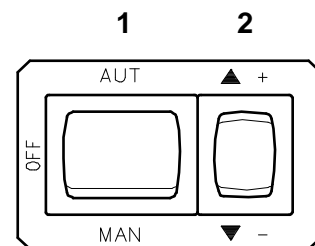
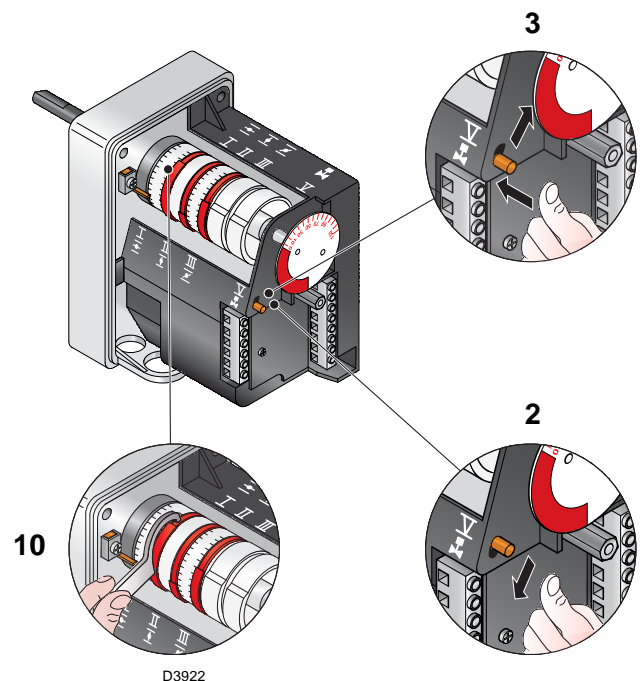

Fig. 27
Fig. 29
Close the thermostats/pressure switches and turn the switch of Fig. 27 to position “MAN”.
Now press the button 2)(Fig. 27) “output increase”, and keep it pressed until the servomotor has opened the air damper and the gas butterfly valve.
Press the button 2)(Fig. 27) "output reduction", and keep it pressed until the servomotor has closed the air damper and the gas butterfly valve at 65° (adjustment made in the factory).
- If it is necessary to reduce it, reduce slightly the angle of cam III (Fig. 29) with small, regular movements, i.e. bring it from an angle of 65° to 63° - 61°....
- If it is necessary to increase it, press slightly the button "output increase" 2)(Fig. 27) (open by 10-15° the gas butterfly valve), increase the cam III angle (Fig. 29) with small, regular movements, i.e. bring it from an angle of 65° a 67° - 69°....
Press slightly the button "output increase" 2)(Fig. 27) so that the servomotor rotates by 15°. Adjust the screws until optimal combustion is obtained. Proceed in the same way with the other screws. Take care that the cam profile variation is progressive. Switch the burner off with switch 1)(Fig. 27), OFF position. Release cam 4 from the servomotor by pressing and shifting button 3) to the right, and check several times that by rotating cam 4 forwards and backwards by hand, the movement is soft and smooth, without jamming.